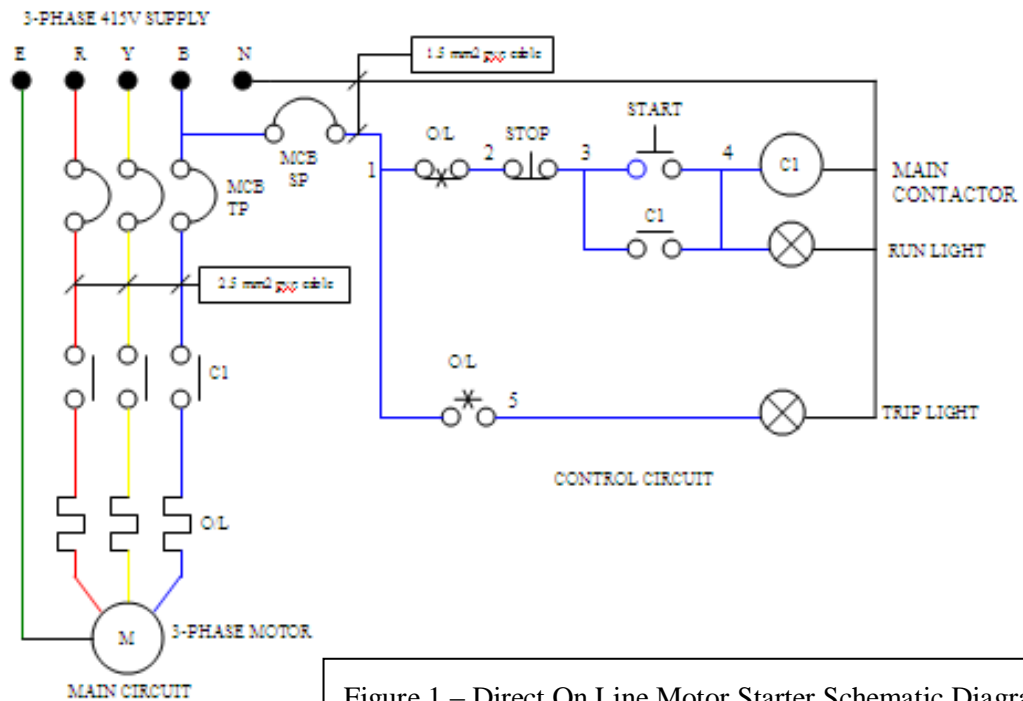

Figure 1 – Direct On Line Motor Starter Schematic Diagram
- Figure 1 shows a Control Circuit and Main Circuit of Direct On Line Motor Starter.